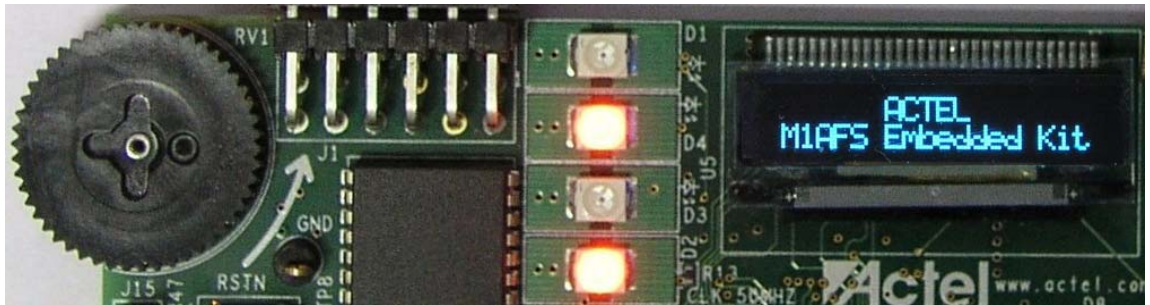

Figure 2-2 · Startup Message
3. You will see the message, “ACTEL M1AFS Embedded Kit” displayed on the OLED (Figure 2-2).